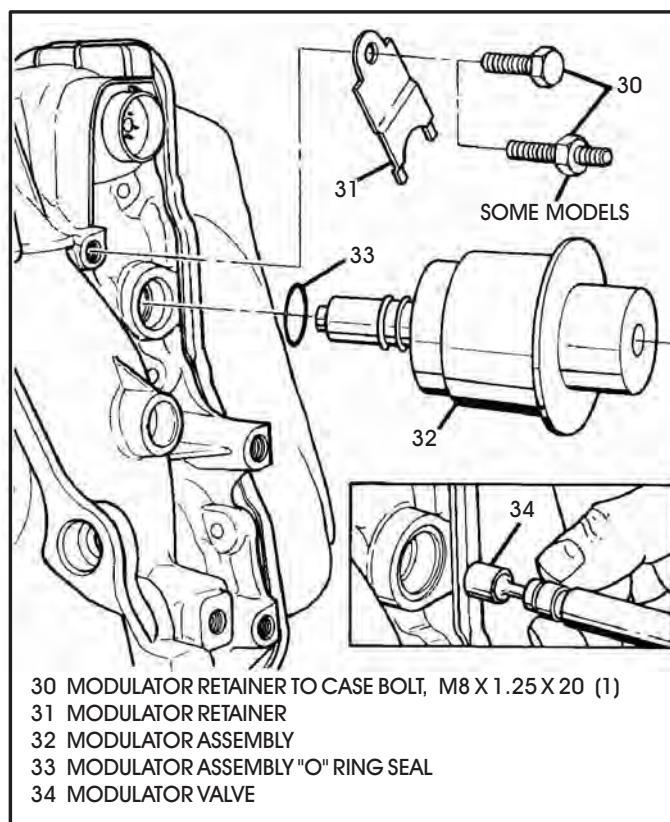

Figure 226
16. Install the modulator valve into the case bore, as shown in Figure 226.
17. Install new "O" ring seal on a new modulator, as shown in Figure 226.
18. Install the modulator assembly into the case, as shown in Figure 226.
19. Install the modulator retainer and torque bolt to 24 N·m (18 ft.lb.). (See Figure 226).